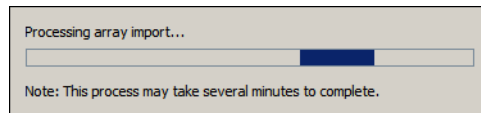

Figure 14-112 Processing array import
- The Array Import wizard will start importing the array and display the status as shown in Figure 14-112.